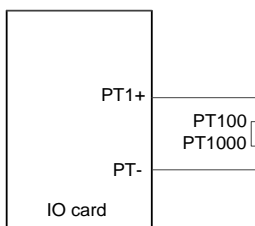

Figure 5-20 PT100/PT1000 measuring temperature through an expansion card
1. Connect EC-IO502-00 to PT100/PT1000 according to Figure 5-20 PT100/PT1000 measuring temperature through an expansion card.